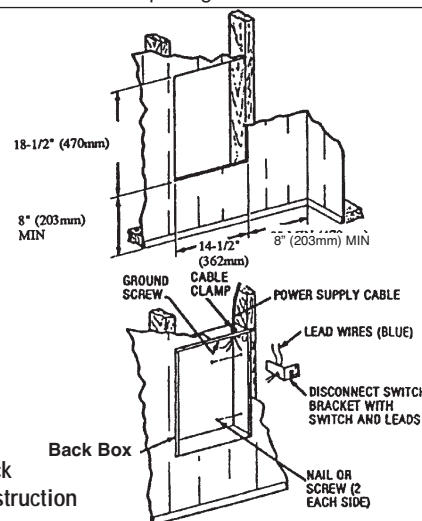

Fig. 2: Locating Back Box in Existing Construction
1. Provide a wall opening 14-1/2" (362mm) wide by 18-1/2" (470mm) high at the desired mounting height, but no closer than 8" (203mm) from floor. (See Figure 2.)